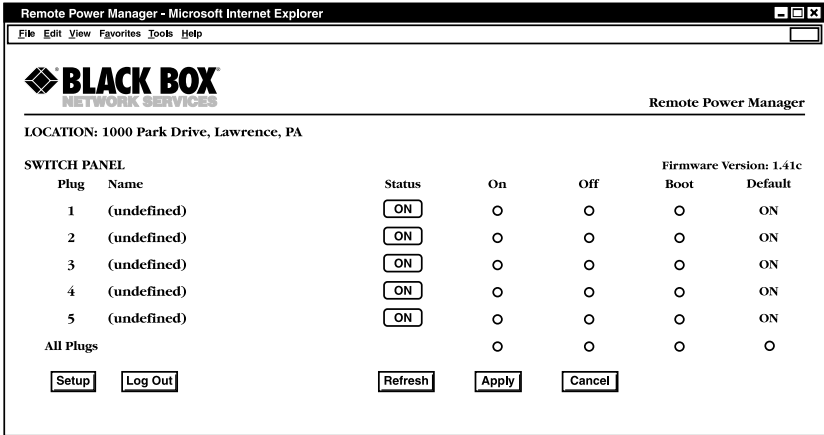

Figure 5-1. Plug Status screen—Web-browser interface for PS565A and PS565AE.
- c. If the system password has not been defined, simply click on the **OK** button without typing in a name or password. If you entered a valid password, the Plug Status screen appears (see Figures 5-1 and 5-2).
- Web browser interface: Click on the **Setup** button in Figure 5-1 to gain access to the configuration menus. A row of buttons will appear along the left edge of the screen. Click on the appropriate button to access the desired menu.